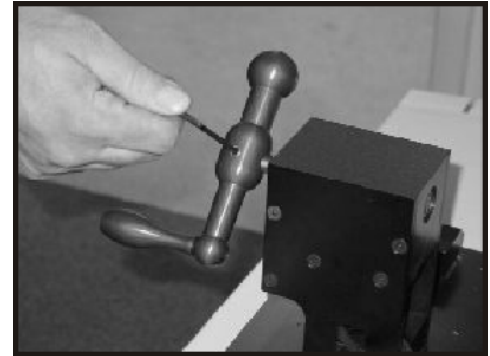

Figure 2
2. The handle attaches to the shaft on the gear box by tightening the set screw to the shaft (Fig 2).